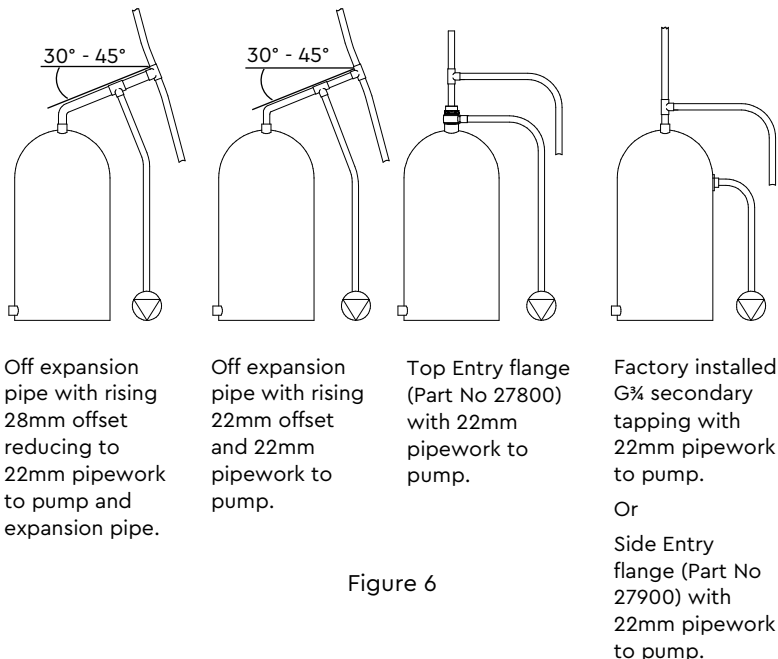

Figure 6
Hot water supply: The pump **must be** supplied with a **dedicated feed** direct from the hot water cylinder or storage tank, ensuring an air free connection to the pump. We recommend the use of either the side entry flange (SE) Part No 27900 or a top entry flange (TE) Part No 27800 see Figure 6.